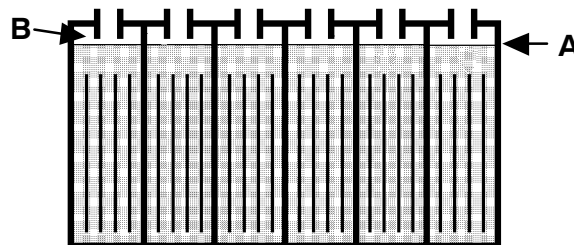

FIG. 21
9. After charging, recheck the battery fluid level (A) in each battery cell. The level should be 1 cm (3/8 in) from the bottom of sight tubes (B). Add distilled water if needed. **DO NOT OVERFILL** (Figure 21).